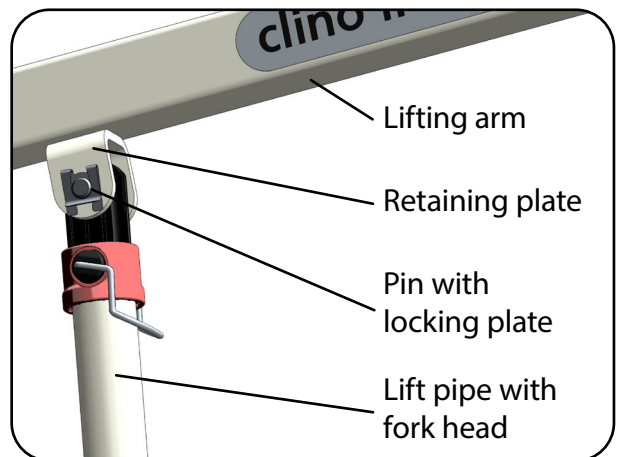

Fig. 6.2.05 – Assembly of the lift drive
- Remove the bolt with the locking plate from the retaining plate on the lifting arm (Fig. 6.2.05).
- Raise the lifting arm and fully align the hole of the lift pipe (fork head) with the hole of the retaining plate. Fasten the lift drive to the retaining plate of the lifting arm by inserting the pin (Fig. 6.2.05).
- Secure the pin with the locking plate (Fig. 6.2.05). To do so, push the locking plate into the groove at the end of the pin. In doing so, the curved end of the plate slides over the chamfer of the pin.